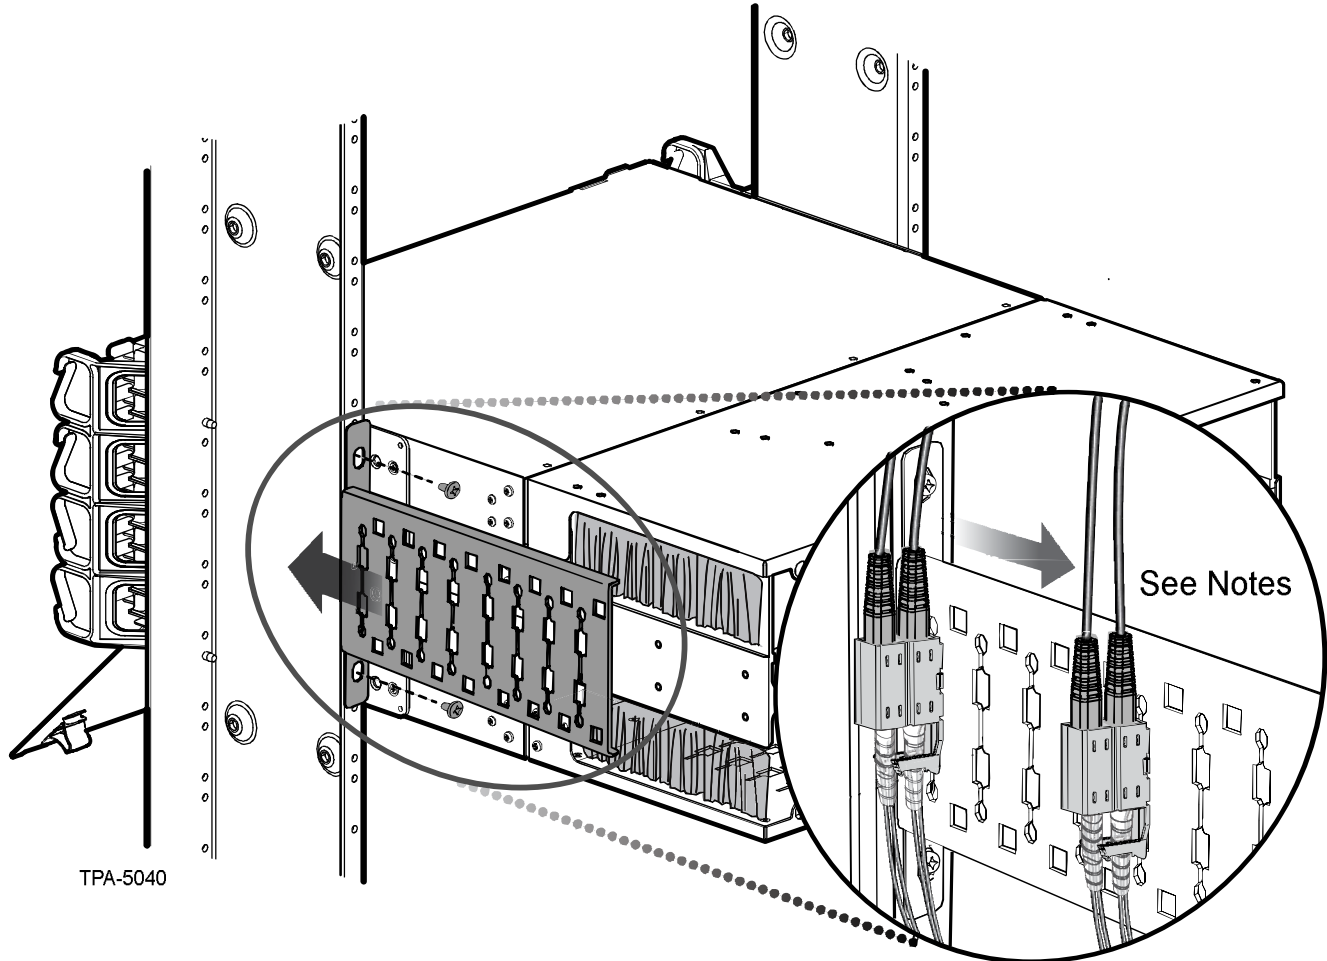
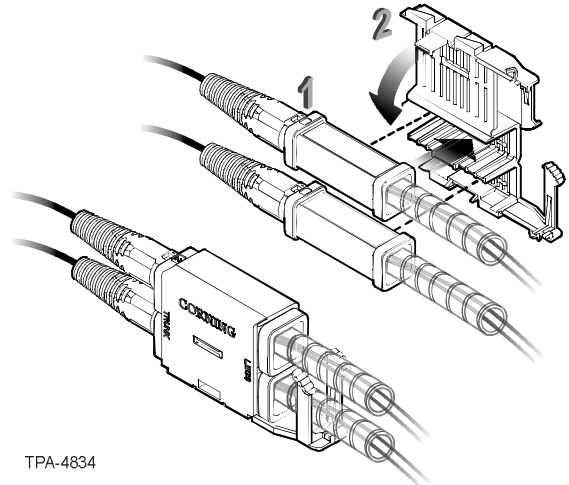
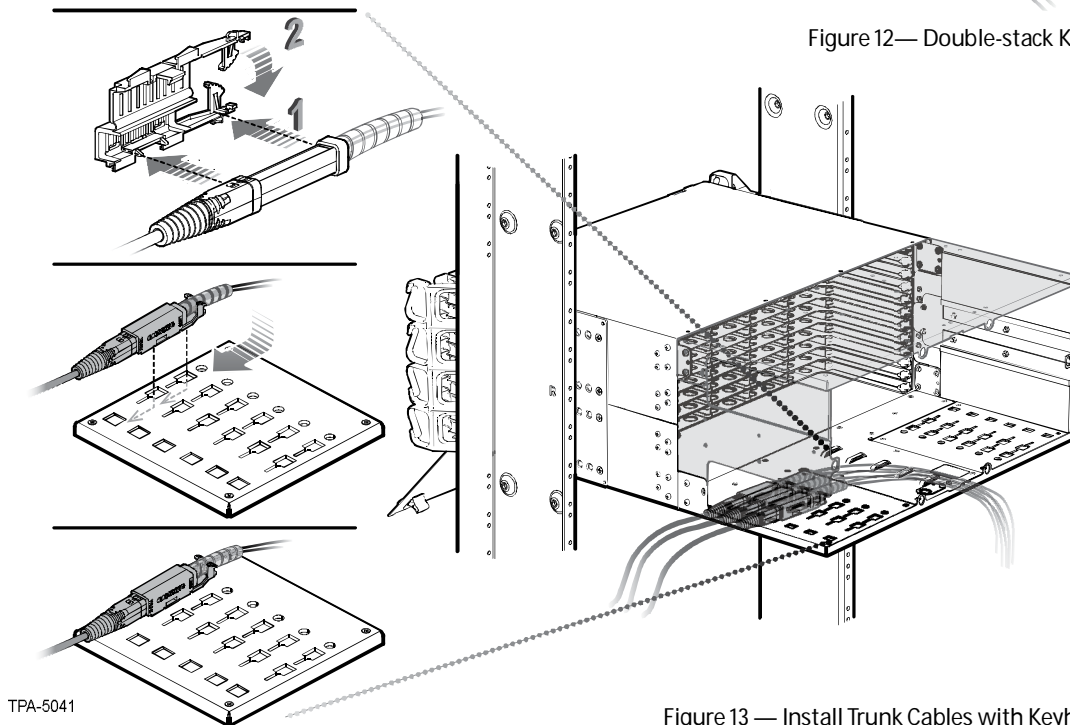

Figure 11 — Install CDF Bracket
Figure 12— Double-stack Keyhole Cradle
Figure 13 — Install Trunk Cables with Keyhole Cradle
- Step 2: Install bracket using two 12-24 screws (Figure 11). Allow enough clearance when routing trunks from the bracket into the housing to ensure bend radius is maintained when trunks enter the housing.
- Step 3: Insert furcation plug into cradle as seen in Figure 12 or Figure 13 and mount cradle onto CDF bracket (Figure 11).
Step 2: Open cradle provided inside the reel and press each trunk cable furcation plug into cradle (Figure 12 - double-stack cradle or Figure 13 - single-stack cradle).
NOTE: *One double-stack cradle (shown in Figure 12) is provided with the trunk cable.*
- Step 3: Insert cradle feet into backplate as shown in Figure 13 or Figure 14 for your cradle type.